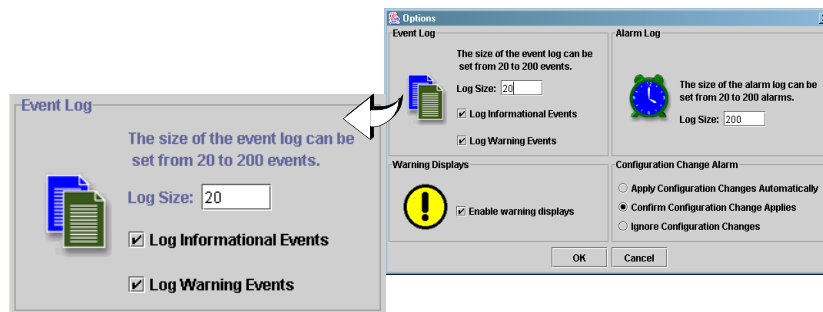

Figure 6-9. Options Dialog Box—Event Log Section
1. On the SANblade Manager main window **View** menu, select **Options**. The **Options** dialog box displays (see figure 6-9).